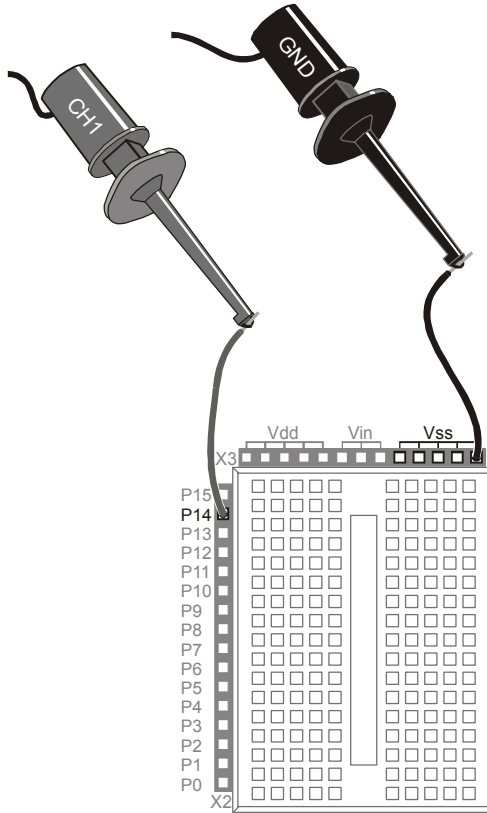

Figure 1-15:
- √ Build the simple circuit shown in Figure 1-14 and Figure 1-15.